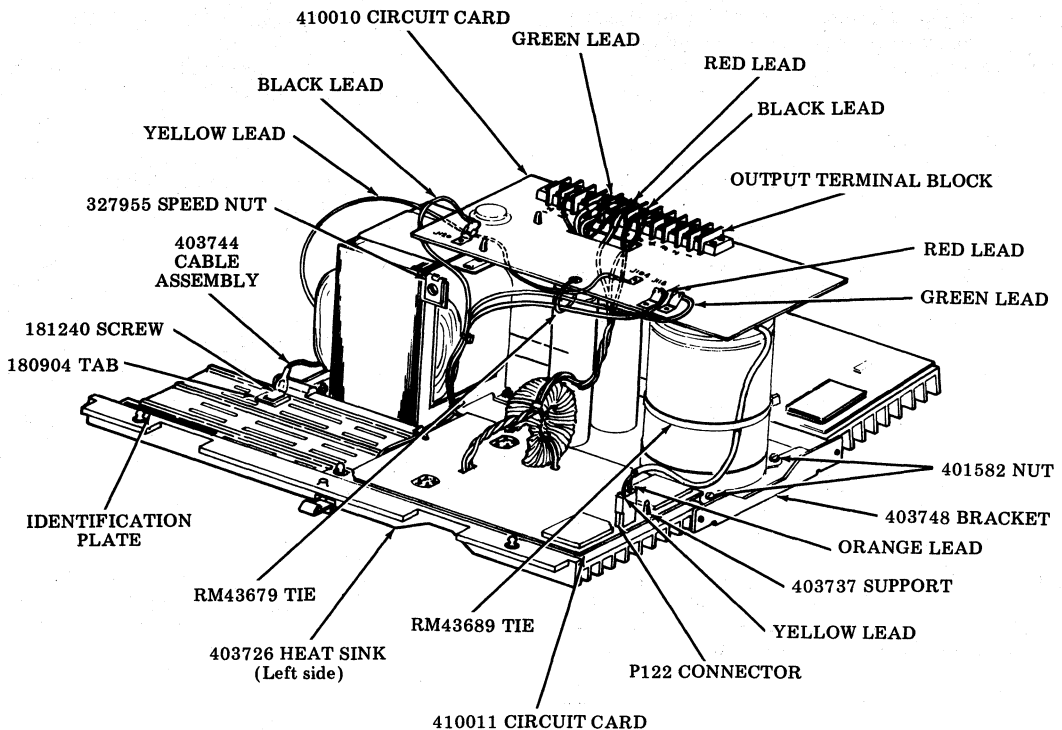

Fig. 34
3.13 To remove 410011 circuit card (Fig. 34 and 36):
(c) Make sure leads from 410011 circuit card to 410010 circuit card are twisted as shown in Fig. 34.